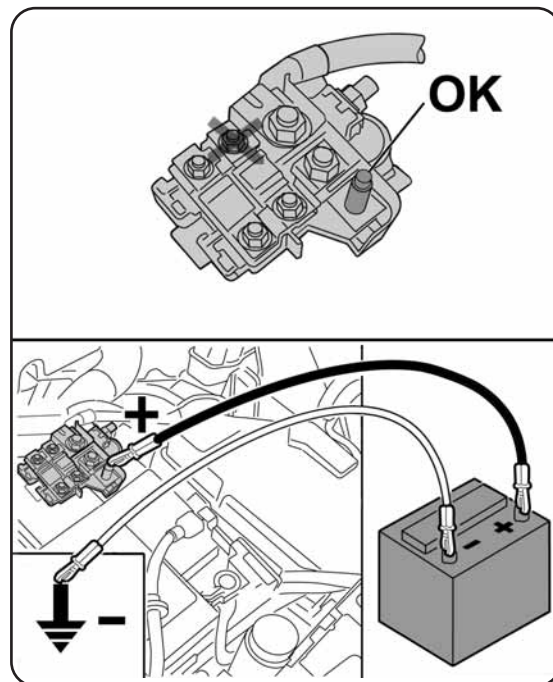

fig. 112
For engine starting follow the procedure below, fig. 112:
- connect the positive terminal (+) of the booster battery only with the point indicated on the vehicle battery (writing OK figure 112) and nowhere else;